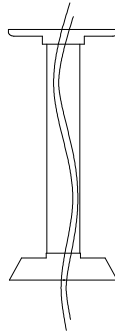

Figure 29
- 3) Take out system control wires from the bracket(Figure 29)